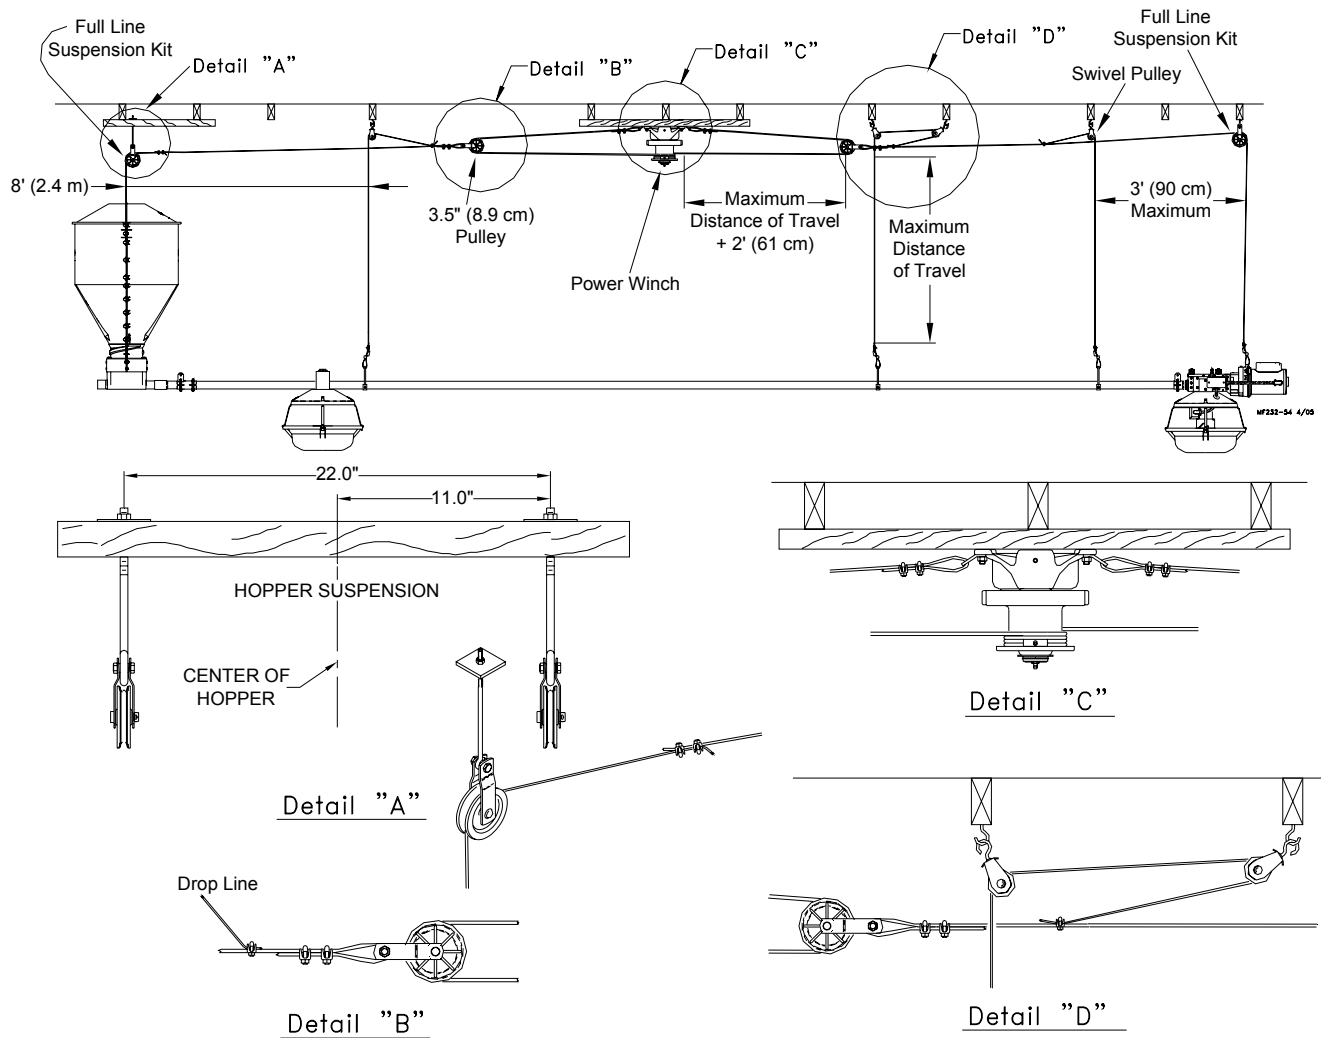
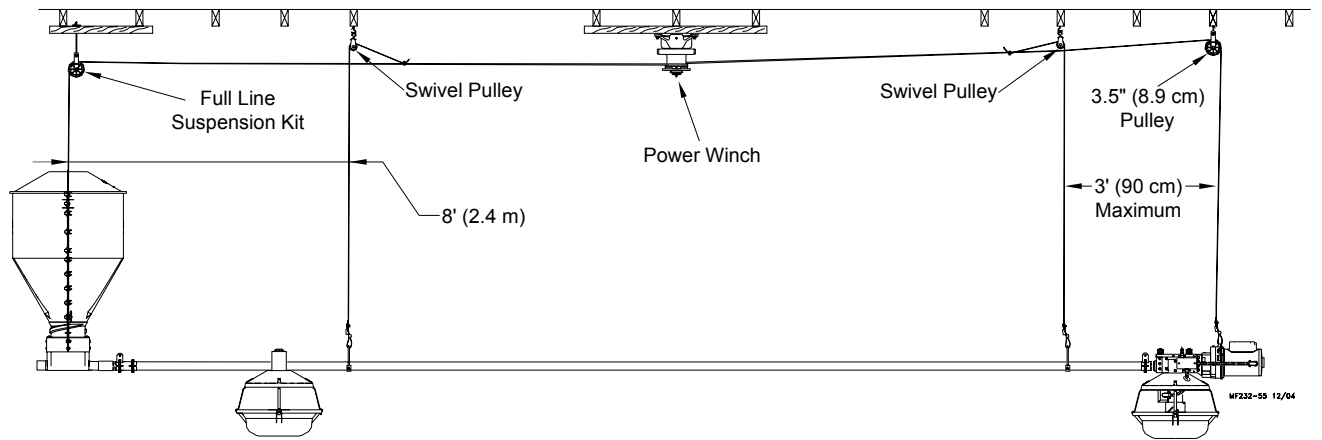

Figure 3. For Systems over 350' (107 m)
Figure 4. For Systems up to 350' (107 m)
The type of installation required depends on feeder line length. **Figure 3** shows the suspension system for feeder line lengths to 350' (107 m). **Figure 4** shows the suspension system for feeder lines over 350' (107 m).
3. Cut the cable long enough to allow for installation to the feeder line and to the Adjustment Leveler. Sufficient cable is included to provide "throwbacks" on drops located beneath and near the winch. **See Figure 3 (on page 13)**, Detail D shows a "throwback" cable arrangement.